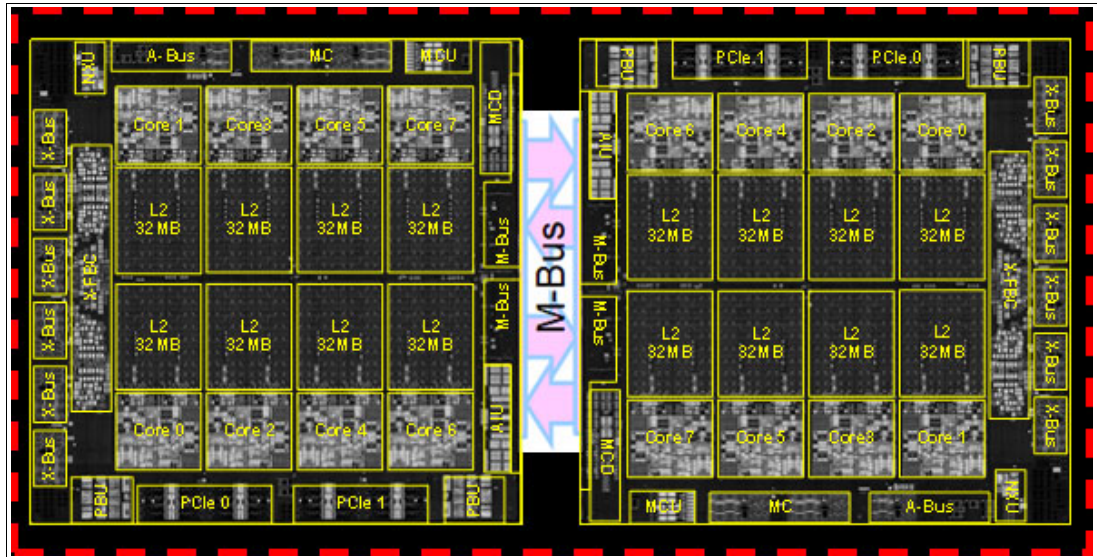

Figure 9-3 IBM z16 A02 and IBM z16 AGZ Dual Chip Module (M-Bus connects the two chips)
- ▶ Two PU chips are packaged on a dual chip module (DCM), shown in Figure 9-3 on page 368. PU chip to PU chip communication is performed through the M-Bus, a high-speed bus and acting as ring-to-ring extension communication at 160 Gbps data rate.